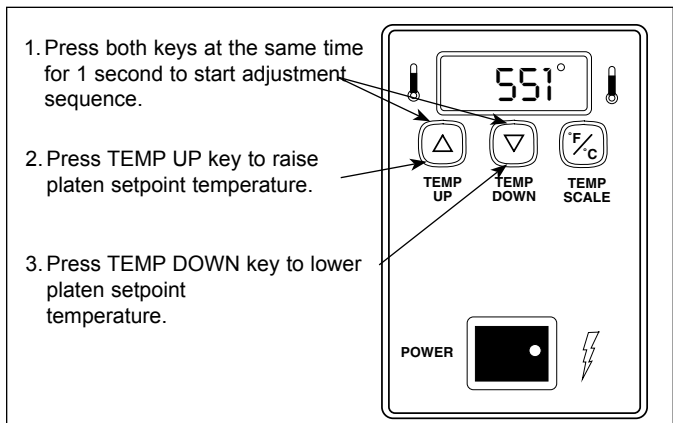

Figure 5. Adjusting Platen Heater Temperature Setpoint
2. Press and hold both TEMP UP and TEMP DOWN keys for over 1 second until the display flashes the setpoint temperature, then release (Figure 5).